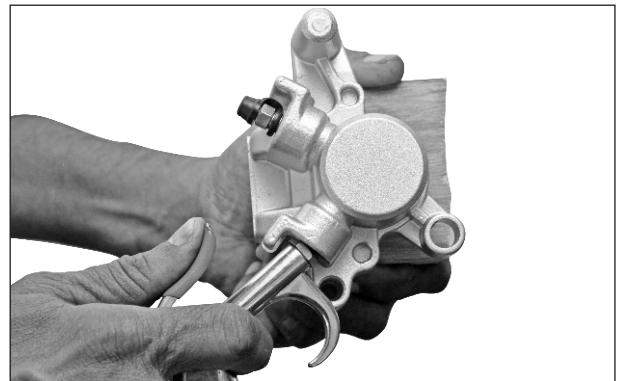

Fig. 6.119
- Insert a spacer between piston caliper and the caliper housing (at pad position) and then apply compressed air through the inlet port of the caliper to slide pistons out. (Fig. 6.119)